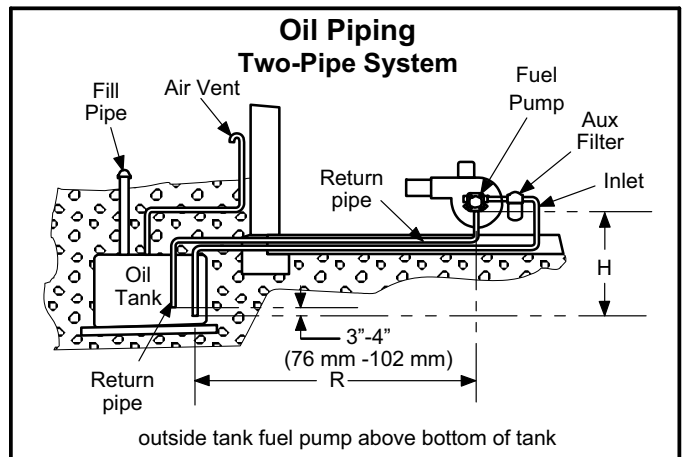

Figure 13
When using a two-pipe system with the oil tank below the level of the burner, a single-stage fuel pump should be used in lift conditions of up to 10 feet (3 m) and/or a vacuum of 10" (254 mm) Hg or less. See figure 13. Use a two-stage fuel pump when lift exceeds 10 feet (3 m) and/or a vacuum of 10" (254 mm) Hg to 15" (381 mm) Hg.
- 2 - Insert bypass plug and tighten it. See figure 13.
- 4 - The return pipe must terminate 3" to 4" above the supply pipe inlet. See figure 13.